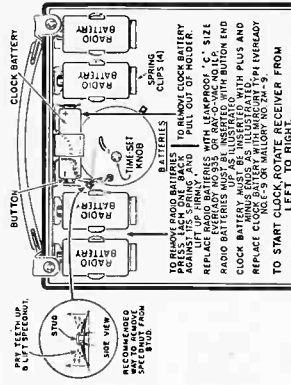

FIG. 1 - BATTERY & CLOCK INFORMATION
1. Remove clock battery from clip. 2. Remove rubber pads. 3. Unsolder two wire clock leads from battery clip terminals. 4. Pry speednut teeth up and lift off from stud. (See Fig. 1, Page 2). 5. Clock may now be removed by pushing clock gently towards face of set (Support clock front with other hand).